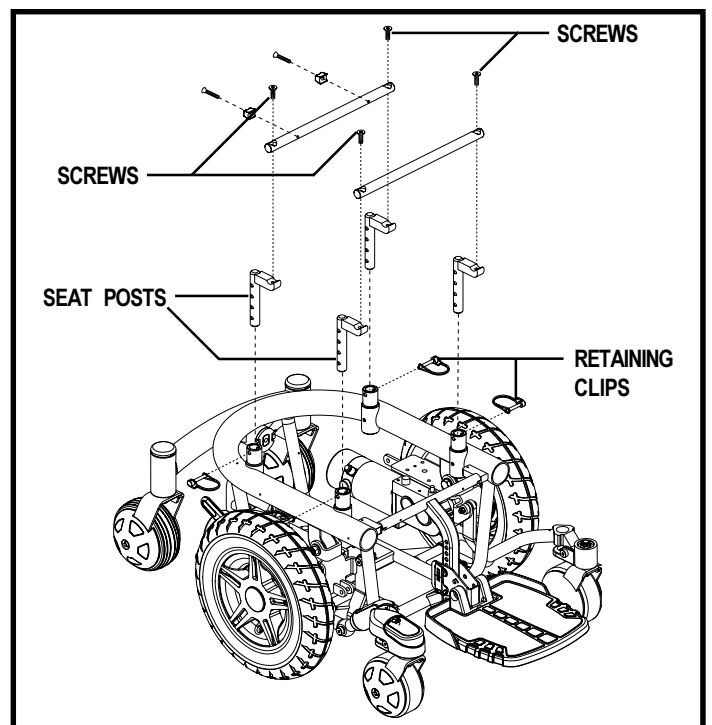

Figure 13. Trapeze Bar Adjustment
7. Loosen the screws that attach the trapeze bars to the seat posts. See figure 13.
8. Remove the retaining clips that secure the seat posts to the power base. See figure 13.